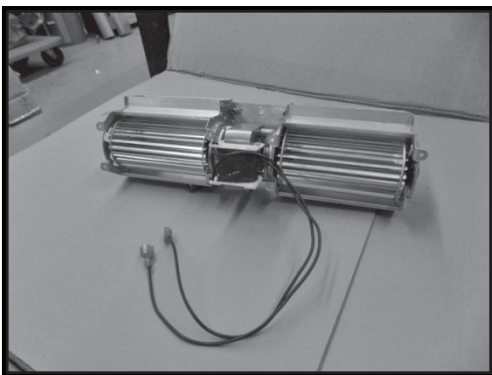

Figure 57: Extracted fan.
9. Disconnect the two power wires (Figure 57) before fully extracting the fan from the opening.